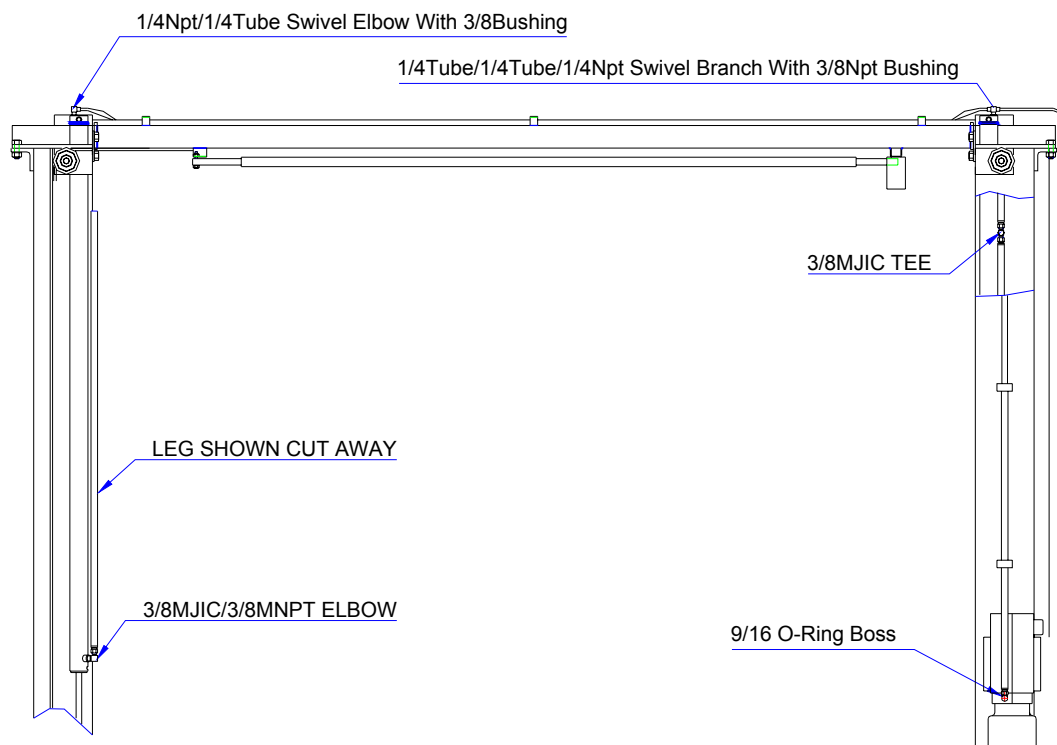

Fig. 5
12. Hydraulic system, figure 5.